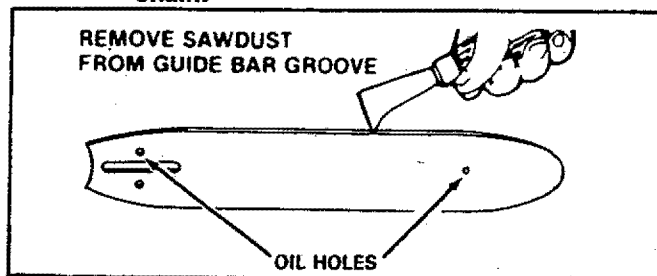

Figure 34
- Clean oil holes at least once for each five hours of operation. Figure 34.
- Remove sawdust from the guide bar groove periodically with a putty knife or a wire. Figure 34.